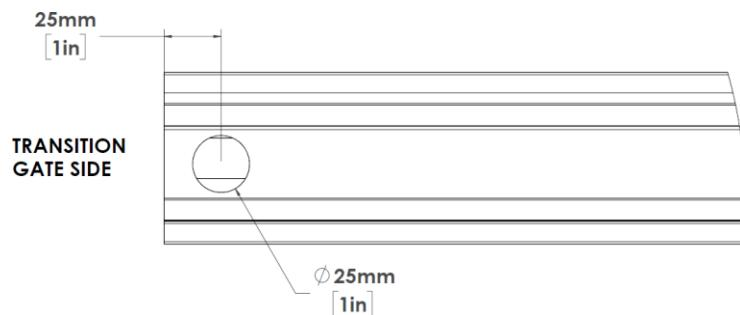

Figure 88: **Traversing Track Hole**
a. Drill a 1" diameter hole 1" from the gate side of the traversing track, centered across the width of the track, as shown in Figure 88.